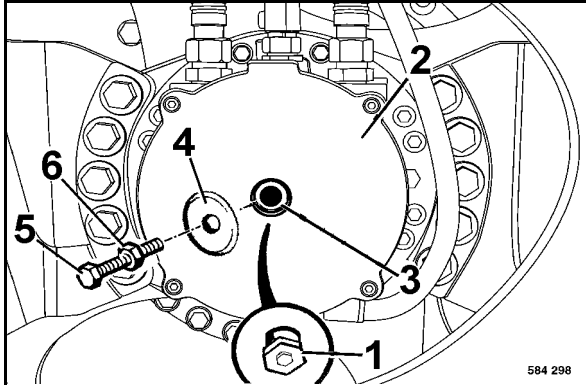

Fig. 111
- Unscrew* plug 1 (Fig. 111) to release the brake in the drum drive motor.
- Place clamping disc (4) across the brake housing (2) and turn the screw (5) into the tapped bore (3), until it bottoms.
- Turn the nut (6) down and tighten it for approx. one turn. The drum must rotate freely.